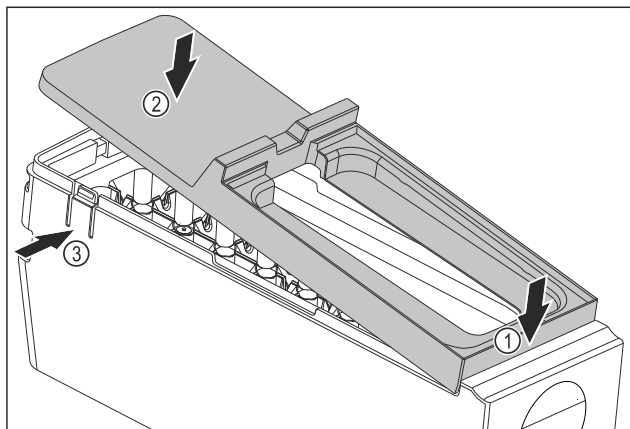

Fig. 89
- Installing the EasyTwist-Ice body cover: Place the cover on the front. Fig. 89 (1)
- Lower the cover at the rear. Fig. 89 (2)
- The cover locks into both tabs Fig. 89 (3) audibly.